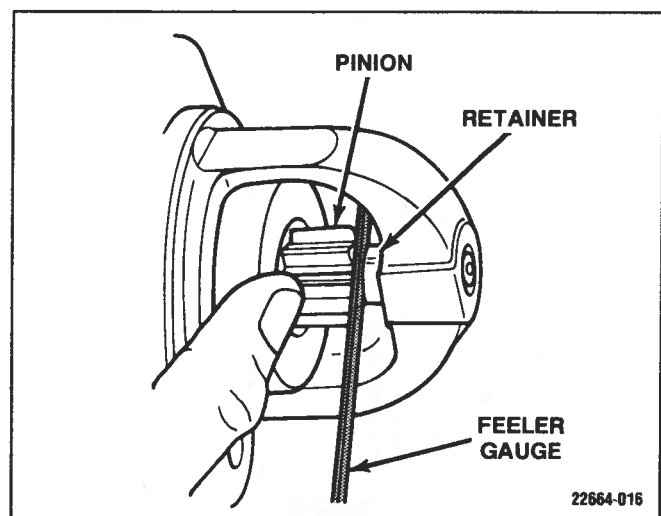

Figure 6-13. *Checking Starter Pinion Clearance*
4. Push pinion back toward commutator end to eliminate slack (Figure 6-13).